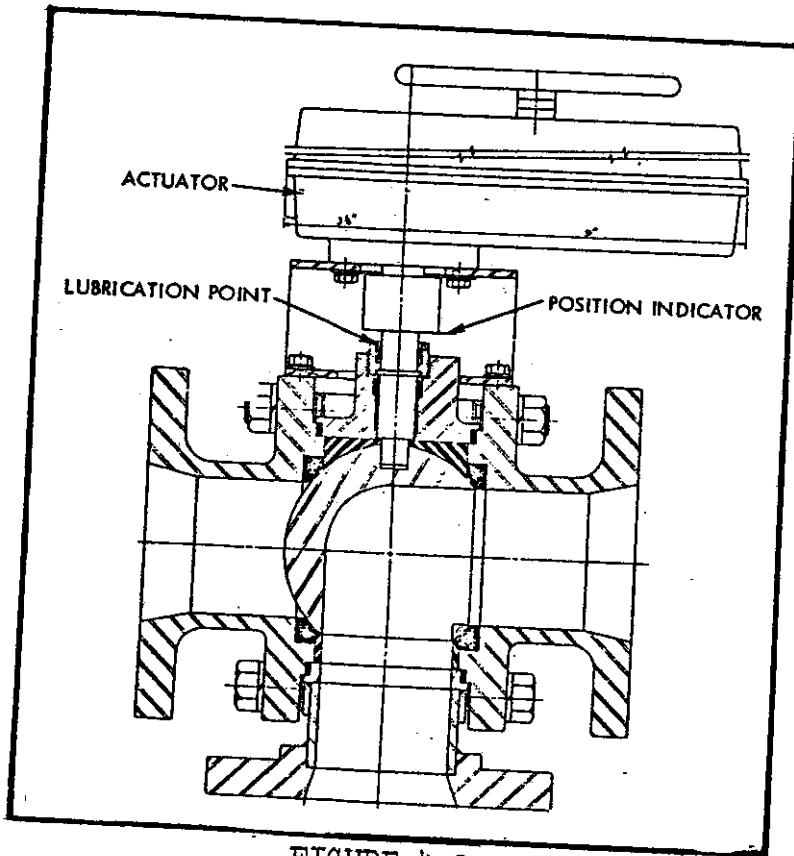
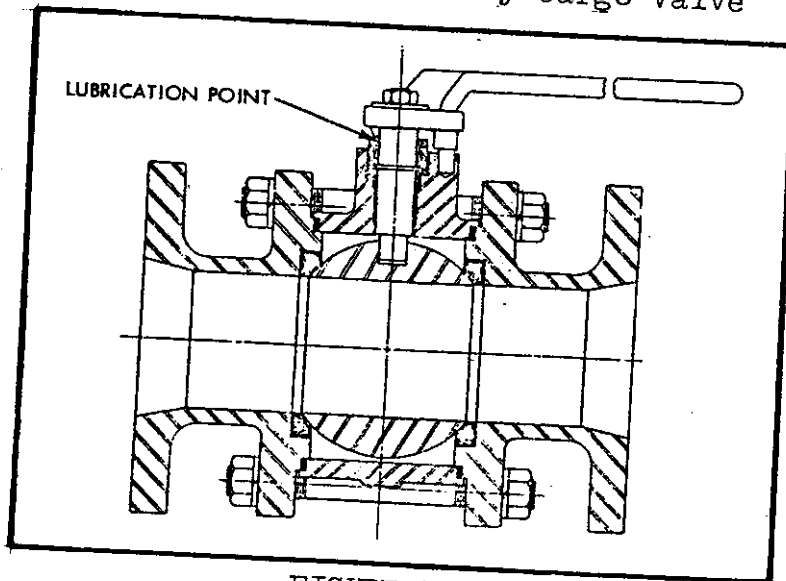

FIGURE 4-1
FIGURE 4-2
(1) Operate all cargo valves in the manual mode of operation every 200 hours or once a month. Also, lubricate needle bearing on cargo valve stem every month with light oil. See Figure 4-1 and Figure 4-2 for lubrication point.
(2) Check that valve wheels on the automatic operators return freely from the manual to the automatic mode of operation; if necessary, lubricate the valve stem bearing on the casing with light oil.
(3) Operate valves in the automatic mode of operation to check that opening and closing times are uniform; the traversing time from FILL to DISCHARGE should be about 16 seconds.